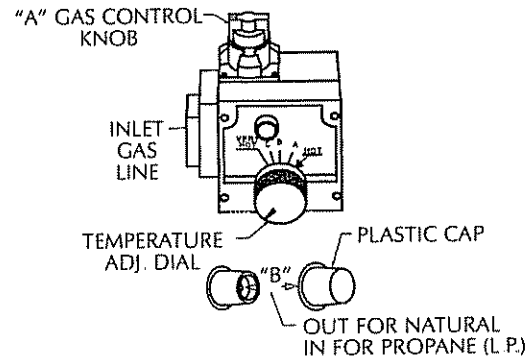
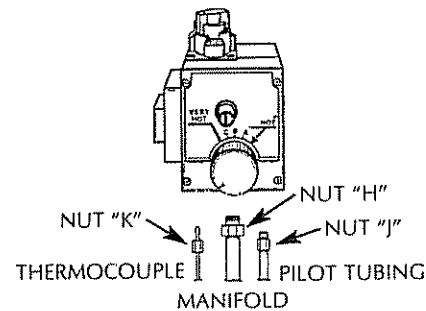
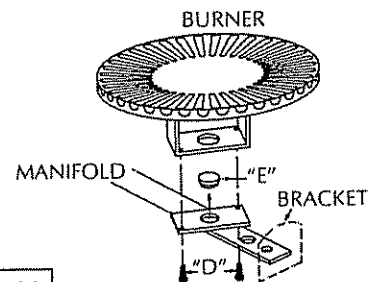
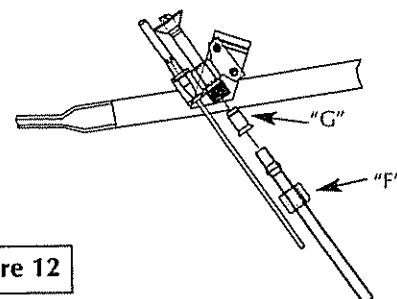

Figure 9
Figure 10a
Figure 11
Figure 12
- Step 1. Turn gas control knob "A" to "PILOT". Depress and turn "OFF". (See Figure 9, page 20).
- Step 3. Remove burner assembly from water heater control by first removing 6 screws holding inner door to heater, then loosening  $\frac{3}{4}$ " nut "H" holding burner assembly to control. (See Figures 10a and 10b, page 20). Loosen pilot tube nut "J" and thermocouple nut "K" at control.
- Step 4. Remove screws "D" disengaging manifold from burner. (See Figure 11, page 20)
- Step 5. Remove orifice "E" (See Figure 11, page 20) using  $\frac{3}{8}$ " wrench. Install orifice marked "L.P." found in the bag into manifold. Tighten securely. Secure burner to manifold with screws "D".
- Step 6. Loosen pilot tube nut "F" (See Figure 12, page 20). Remove orifice "G" and replace with red colored orifice found in bag. Reinstall nut "F" and tighten securely.
- Step 7. Make sure all connections are tightened securely, and reinstall burner assembly into water heater. Position end of the manifold inside bracket as shown in Figure 11 on page 20. Reinstall manifold into control and tighten  $\frac{3}{4}$  inch nut ("H") securely. Recheck to see that end of manifold is still inside bracket as shown in Figure 11 on page 20. Reinstall pilot tubing and thermocouple into control. (See Figure 10a, page 20). Reinstall inner door using the 6 screws removed in step 3.
- Step 8. Place screwdriver in slot "B". (See Figure 9, page 20). Depress and turn counter-clockwise (↺) to stop. Control screw must be in "IN" position for propane (L.P.) gas and in "OUT" position for natural gas. **STOP!** Read label "For Your Safety" located on your water heater.
- Step 11. Wait five (5) minutes to clear out any gas. If you then smell gas, **STOP!** Follow "B" in the safety information on "For Your Safety" label. If you don't smell gas, go to the next step.
- Step 12. Open pilot door. The pilot is located in front of the burner. (See Figure 12, page 20)
- Step 14. Push in control knob all the way and hold down. Immediately light the pilot through pilot light hole with a match held by a match holder wire. Continue to hold control knob in for about one (1) minute after the pilot is lit. Release knob and it will pop back up. Pilot should remain lit. If it goes out, repeat steps 9 through 12.
- Step 15. Check for gas leaks with only pilot flame burning using a soapy water solution, not a match or open flame. Check for gas leaks at fittings "F" and "G" (See Figure 12, page 20) and at fitting "J" (See Figure 10a, page 20).
- Step 16. Make sure temperature adjustment dial is turned clockwise (↻) in its lowest position (See Figure 9, page 20).
- Step 19. With a soapy water solution, not a match or open flame, check for gas leaks at gas connection "H". (See Figure 10a, page 20). If gas leak occurs, turn off immediately by shutting off gas cock at inlet to